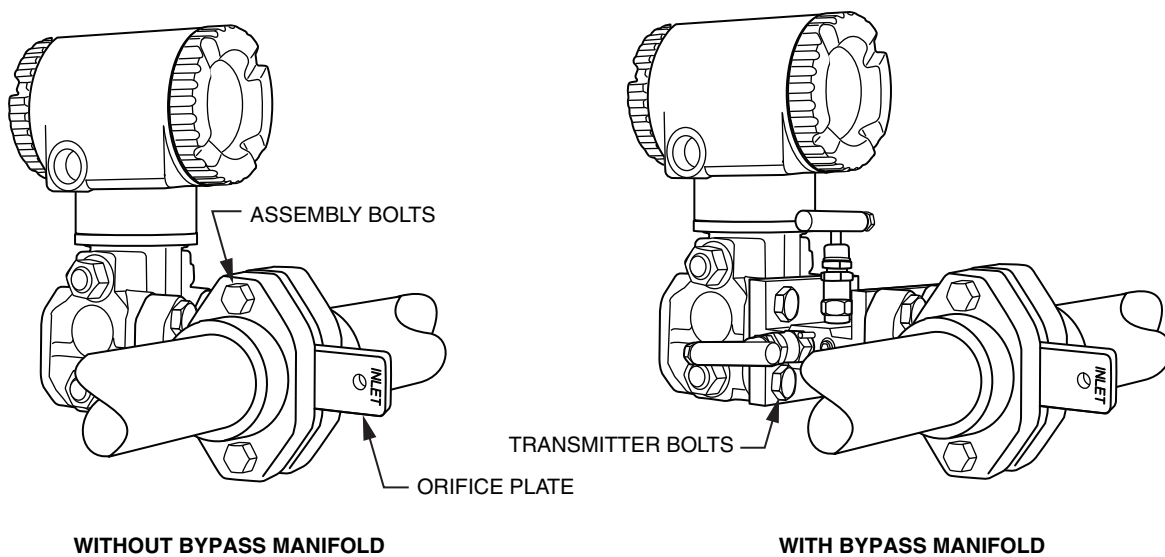

Figure 1. Typical Transmitter and Integral Flow Orifice Assemblies
1. A transmitter (Figure 1) can be installed with or without a bypass manifold between the orifice assembly and the transmitter. However, it is recommended that a 3-valve bypass manifold be installed. This permits process flow to continue uninterrupted while the transmitter is being serviced.